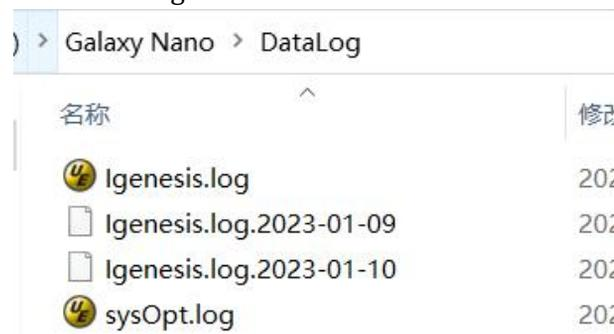

Figure 5-8 Log Directory Window
- ▶ **Log Directory:** Please open the folder that stores data log with the admin authorization, as shown in figure 5-8.